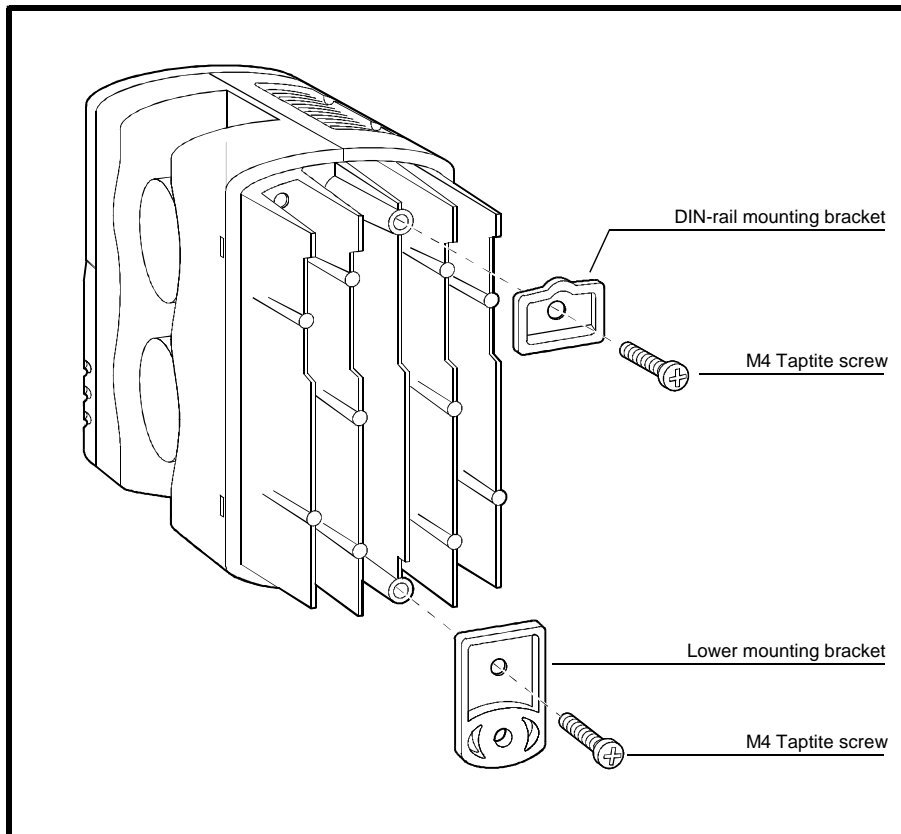

Fig. 4.6 Fitting the brackets to the heatsink in preparation for DIN rail mounting
1. Slide the DIN Rail Bracket into the recess between the fins at the top of the heatsink with the orientations shown in Fig. 4.6 above.
3. Slide one of the Mounting Brackets into the recess between the fins at the bottom of the heatsink with the orientation as shown in Fig. 4.6 above.